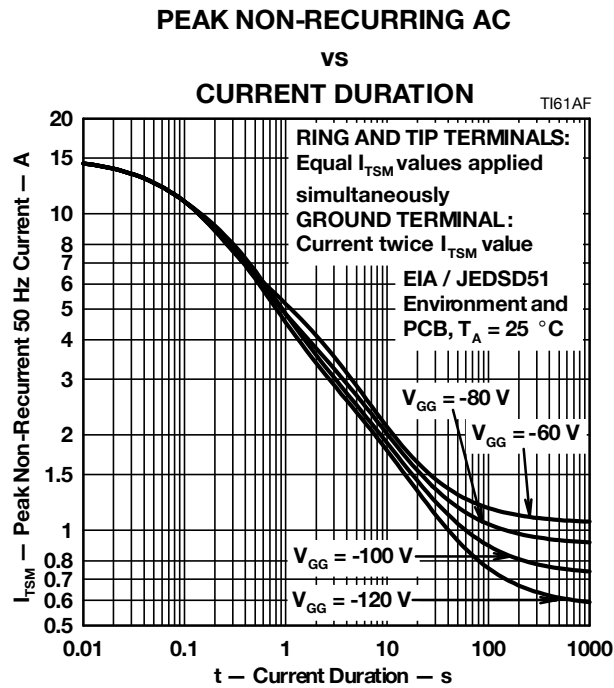

Figure 2. Non-Repetitive Peak On-State Current against Duration
3. Values for $V_{GG} = -48\text{ V}$. For values at other voltages, see Figure 2.